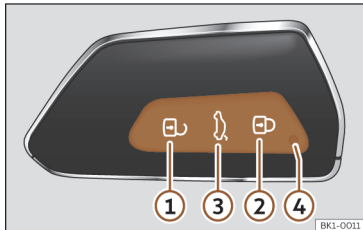

Fig. 67 Vehicle key
When a button is pressed briefly on the vehicle key, the control lamp ④ >>> Fig. 67 flashes once briefly, but if pressed for a long period of time, it will flash several times, for example, when using the comfort opening.